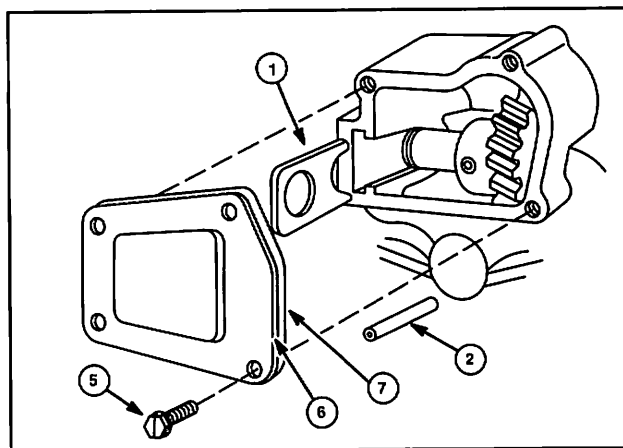

Fig. 51
Replace gasket (7) when installing cover (6), Fig. 51. Put non-hardening sealant on cover screws (5) .
2. Remove cover and lift out shaft stop, Fig. 51.